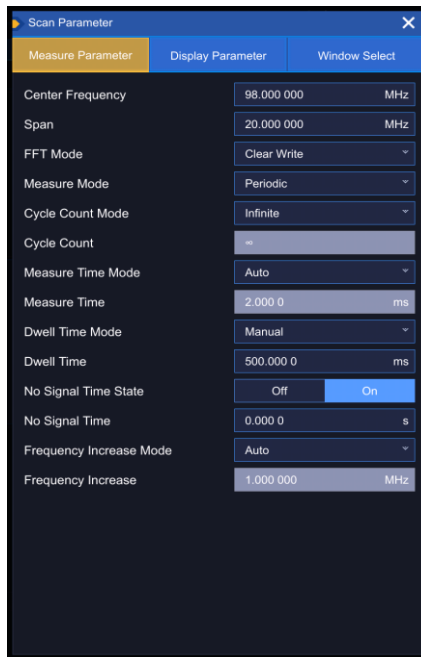

Fig. 4.11 Frequency Scan Parameter Settings
Step 1. After editing the suppression table, set the frequency scan parameters, as shown in Fig. 4.11: